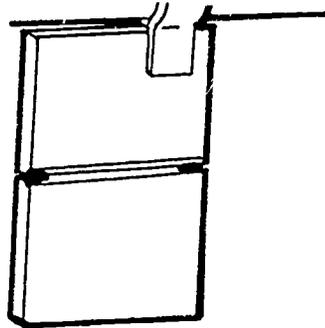

FIGURE 5
- G. Place metal in vertical position for welding (Figure 5)